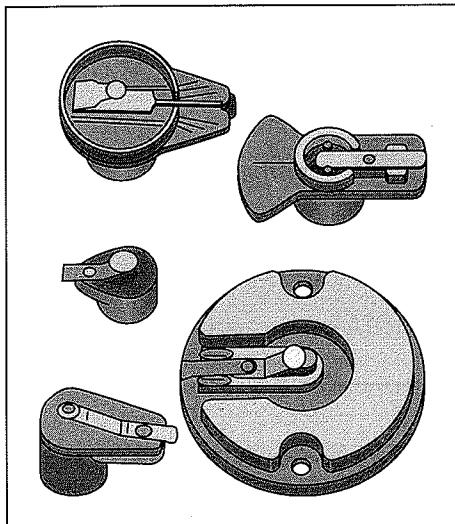

Figure 5-14:
- ④⑤ The rotor (see Figure 5-14) sits atop the distributor shaft inside the distributor. As the distributor shaft turns, the rotor rotates with it and points toward the terminal at the base of each spark plug wire so that each plug can fire in the correct order. For example, when it's pointing at the terminal of the wire leading to your Number 1 spark plug, it directs the current to that spark plug at precisely the time when the fuel/air mixture in the Number 1 cylinder is waiting to be exploded.